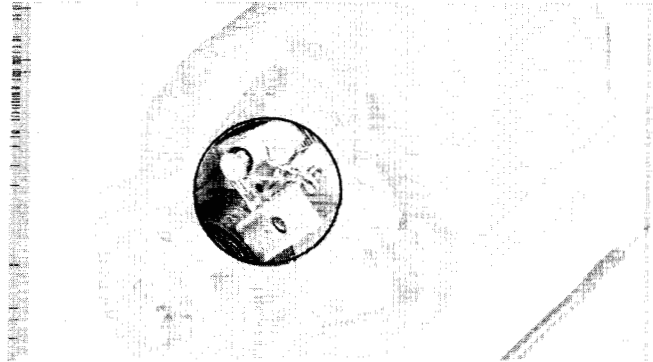

Figure 3.41
3.41 SECURE SPRING/REPLACE MOTOR OR TRIMMER (fig. 3.41)